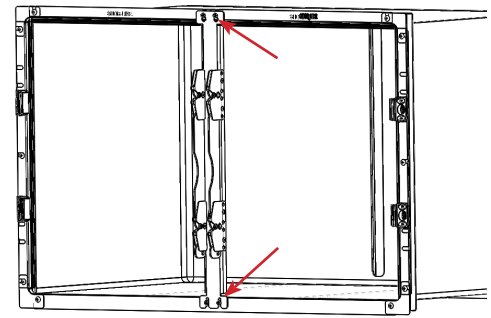

FIGURE 2.19 - Latch Bar Installation
**STEP 6:** The double door conversion kit includes a latch bar equipped with jamb seals. Follow the latch bar removal procedures (reverse order) to install the new latch bar assembly. See FIGURE 2.19